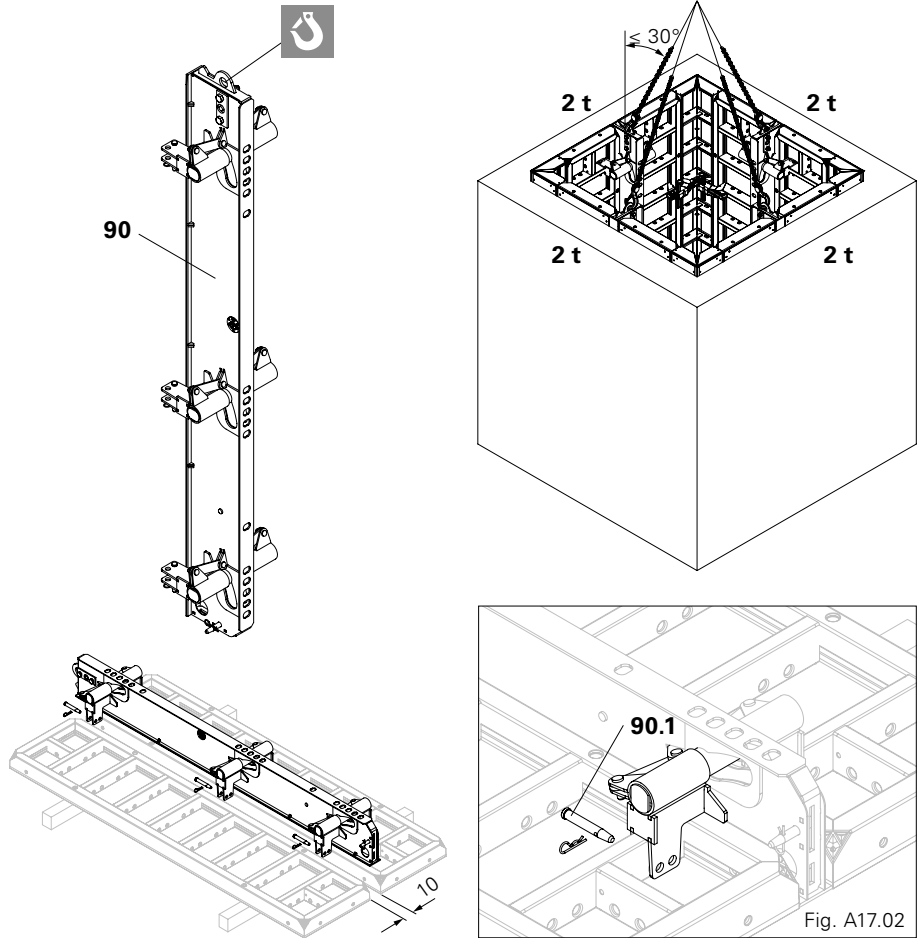

Fig. A17.01
1. Insert Shaft Element (90) between two TRIO Panels. (Fig. A17.01)